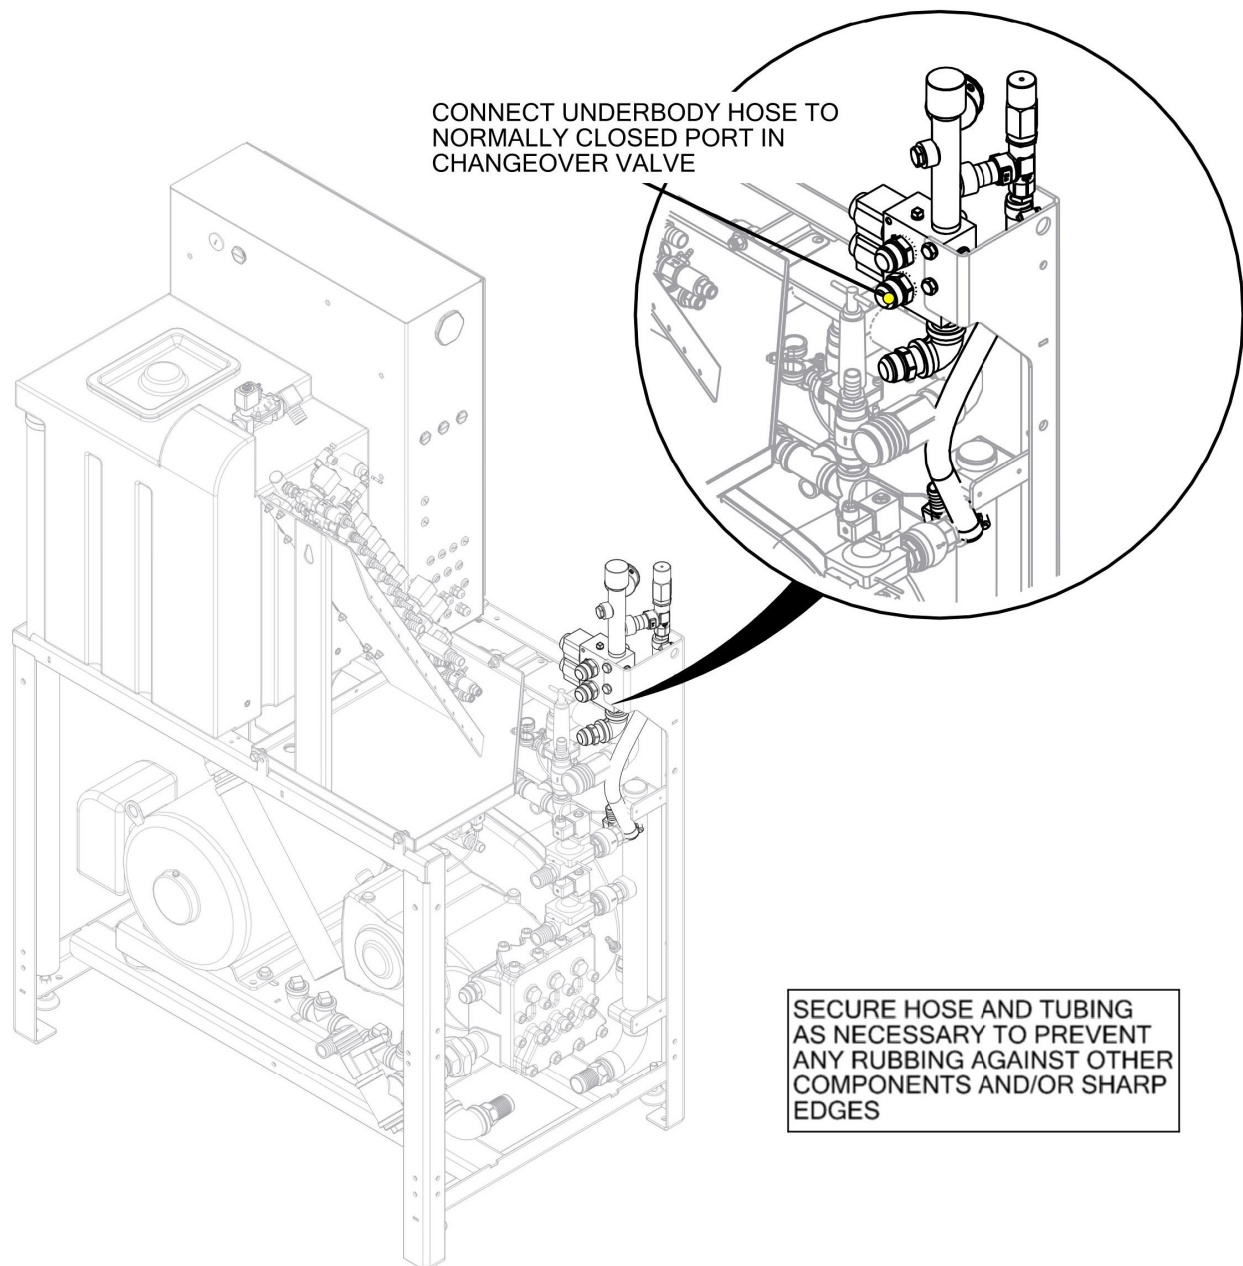

Figure 113 – High-Pressure Underbody Hose Connection to Changeover Valve in High-pressure Pump Station
- Connect the site supplied hose between the normally closed outlet on the changeover valve on the pump station, Figure 113, and the inlet on the underbody manifold.